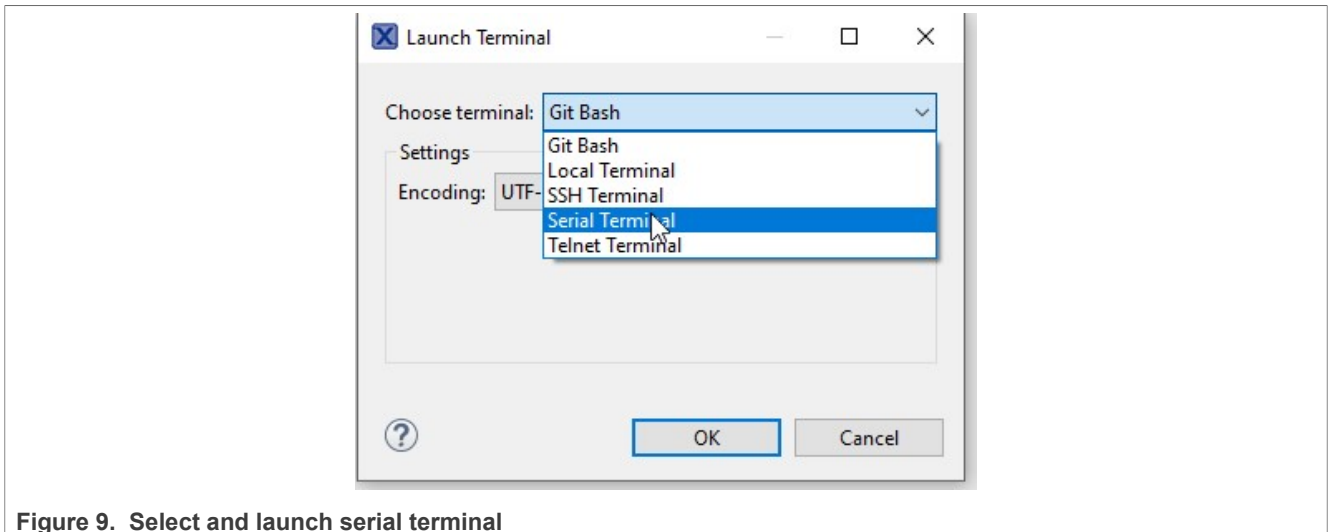

Figure 9. Select and launch serial terminal
3. From the drop-down list of Choose terminal -> Select **Serial Terminal**, see Figure 9.